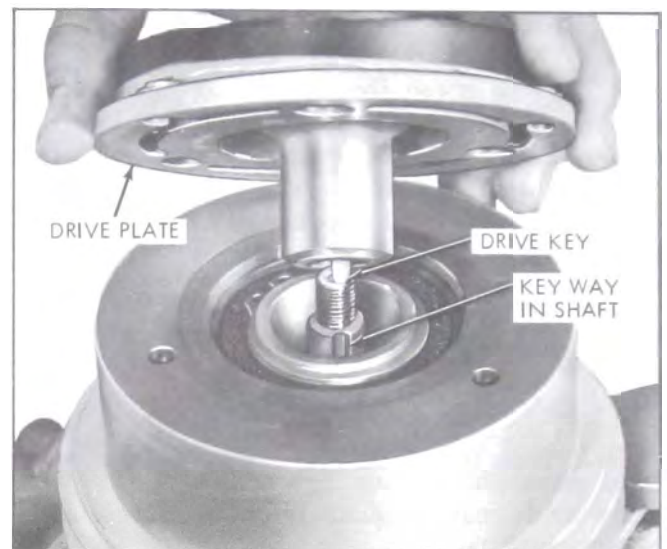

Figure 11-40—Positioning Drive Plate on Shaft
1. Insert square drive key into hub of drive plate so it projects approximately $3/16''$ out of end of keyway. See Figure 11-40.
2. Line up key in hub with keyway in shaft and position drive plate on shaft. See Figure 11-40.